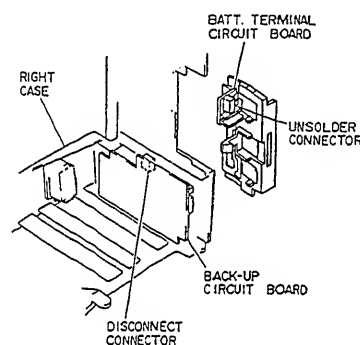

Fig. 2-17
1. Unsolder connector CN902 on the batt. terminal circuit board. (See Fig. 2-17)